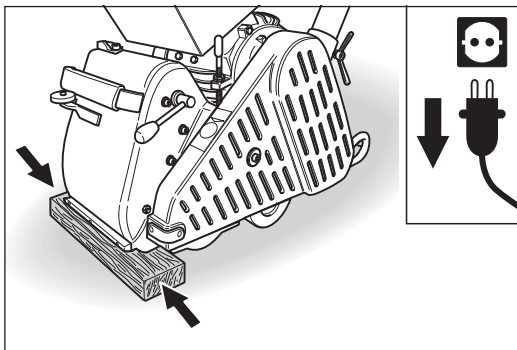

Fig. 32 Secure the machine against sliding!
- **Secure the machine against sliding! For example, place a flat piece of wood between the floor surface and machine housing (fig. 32).**